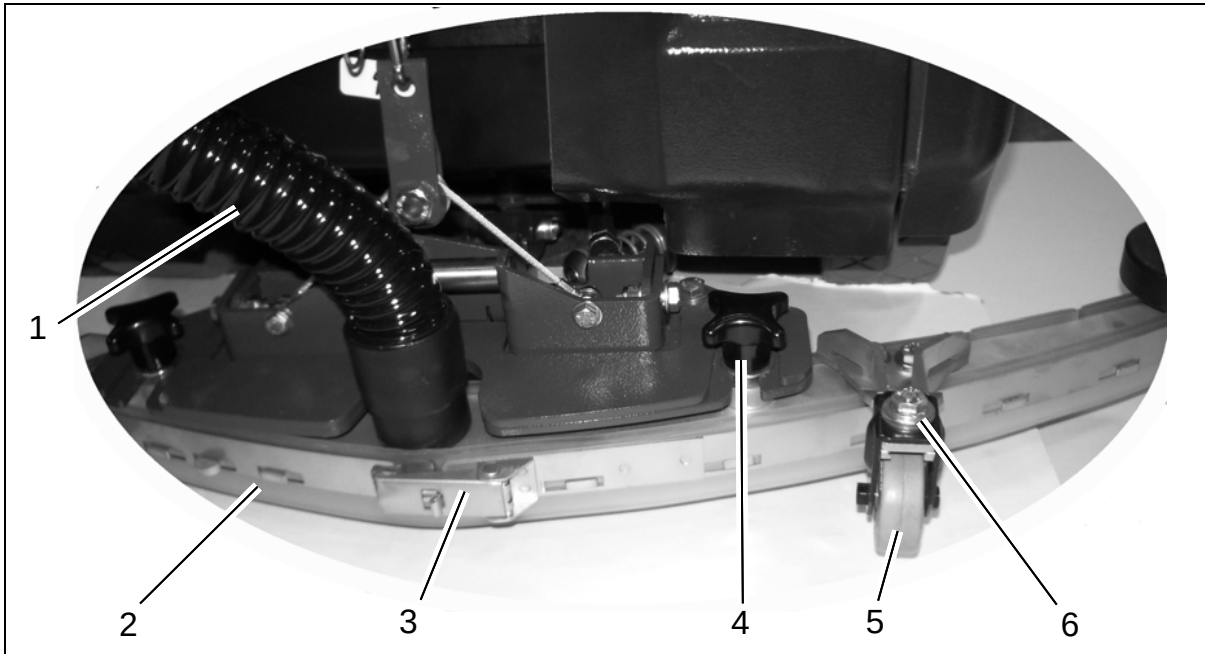

Fig.17
Check the squeegee (Fig. 17/2) daily and clean as necessary.
To clean, lift up the squeegee, pull off the suction hose (Fig. 17/1), loosen the two star-shaped knobs (Fig. 17/4) and remove the squeegee.
Check the inner and outer squeegee blades on the squeegee (Fig. 17/2) weekly for signs of wear. The squeegee blades can be used fourfold by turning them.
3. Unlock the fastening latch (Fig. 17/3) and remove the outer squeegee blade. Turn the squeegee blade or install a new one. Change the inner squeegee blade in the same way.
2. Loosen the pivot bolts (Fig. 17/1) and adjust the squeegee using the adjusting nuts (Fig. 17/2) so that the ends of the squeegee blades contact the floor.